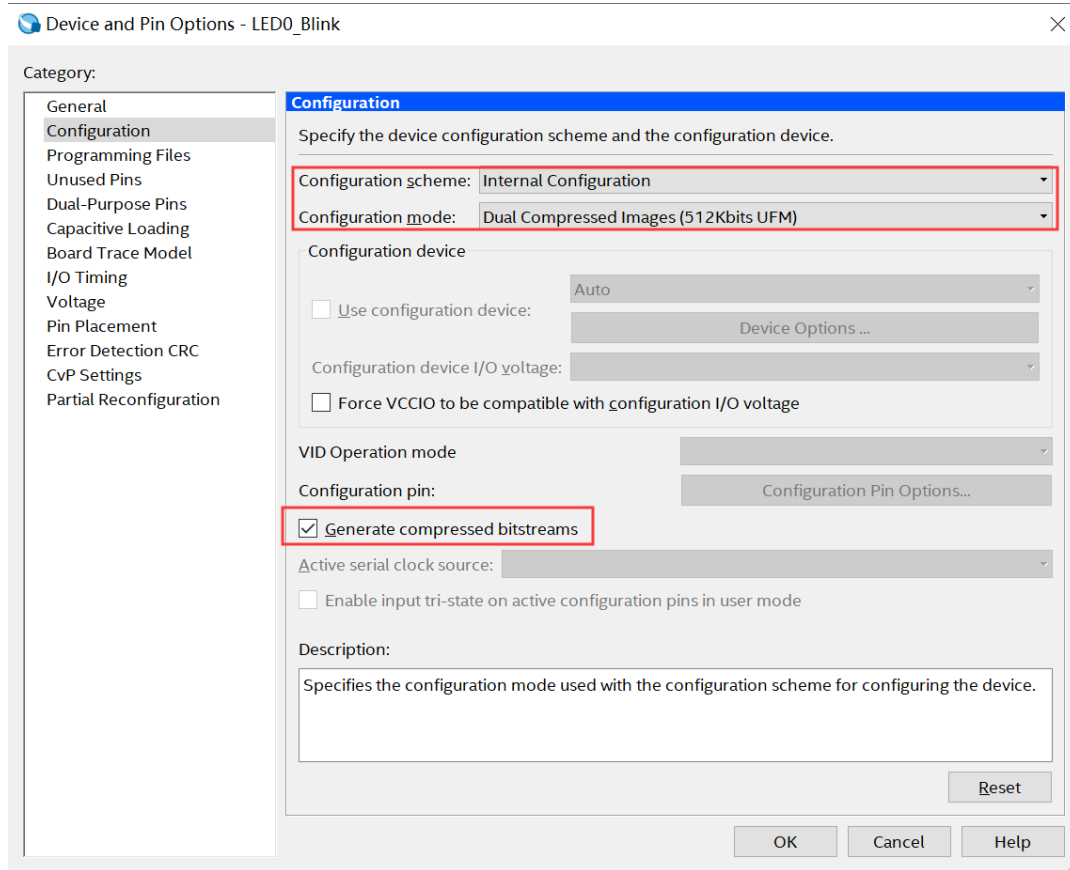

Figure 4-12 Set Dual Configuration Mode
2. Click **Device and Pin Opinions** to open the Device and Pin Opinions windows, and in the **Configuration** tab, Set the **Configuration Scheme** to **Internal Configuration** and the **Configuration Mode** to **Dual Compressed Images**. Check the Option of **Generate compressed bitstreams**. shown in **Figure 4-12**.